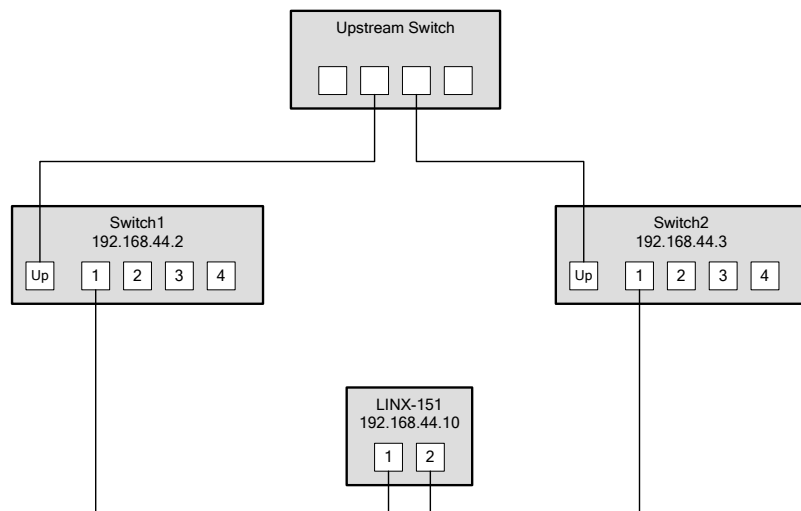

Figure 249: Fully redundant Ethernet topology
**Fully redundant topology:** Both Ethernet ports are connected to a different upstream switch. Thus, a single cable or upstream switch problem can be tolerated. This topology requires STP. In Figure 249, the LINX-151 with IP address 192.168.44.10 is connected in this way. This connection scheme increases switch and cabling costs, but increases network resilience.